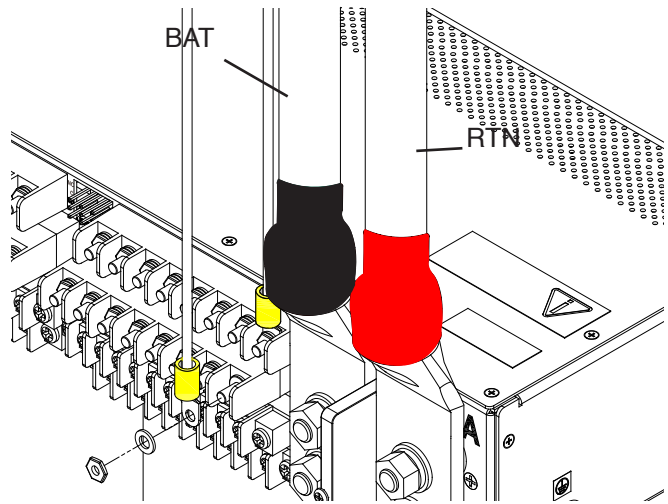

Figure 7 - TPA Output Lug Connections
26. Connect the lug to the terminals, as shown in Figure 7. (NEC specifies only one lug and load at each output terminal.)